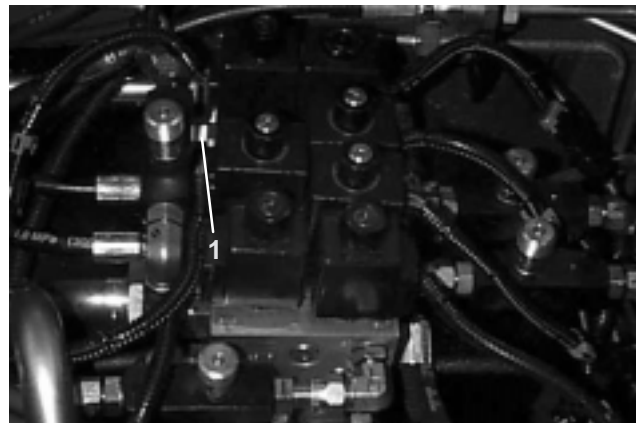

Figure 59
1. Test Port “A” (Fig. 59) is used to assist in trouble shooting the hydraulic circuit for the lift cylinders.